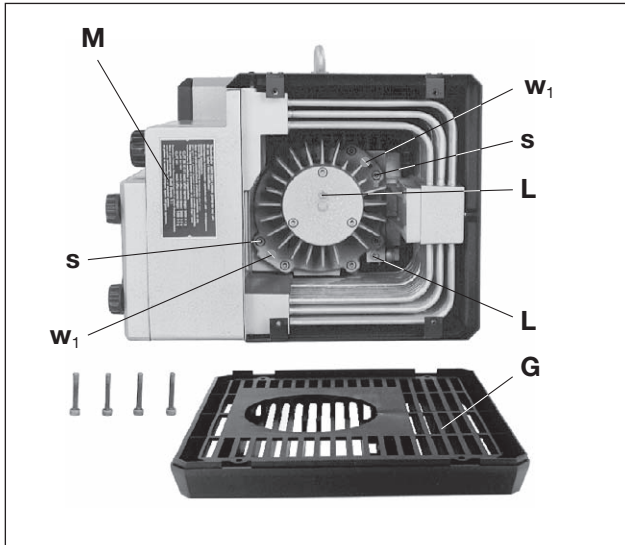
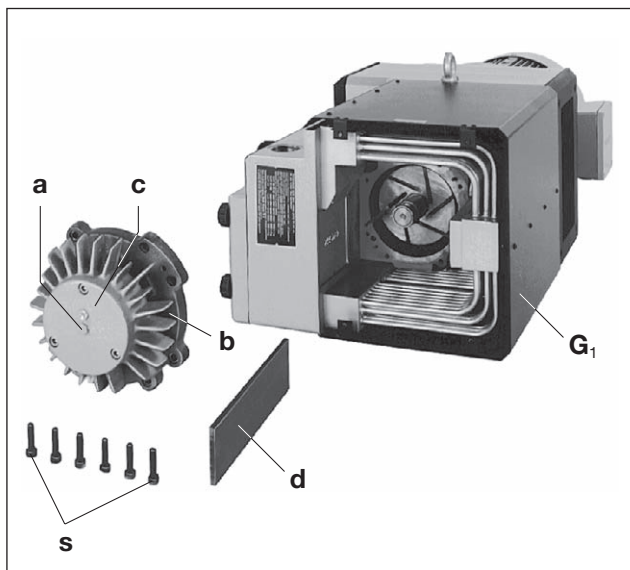
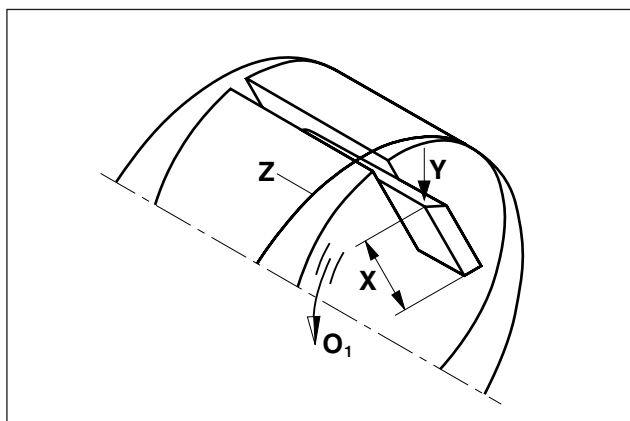

Fig. 4 Lubrication/ Blades
Fig. 5 Lubrication/ Blades
Fig. 6 Blades
The bearings must be greased at the 2 greasing points (Fig. 4/L) with 6 g per point, after the following recommended operating hours or at the latest one year operation:
To lubricate the inlet grating (Fig. 4/G) must be unscrewed.
We recommend the following brands of grease: KlüberPetamoGY193 or other equivalent greases (see also grease recommendation plate (Fig. 4/M)).
First check after 4,000 operating hours and then every 1,000 operating hours or, depending on the height (Fig. 5/X) earlier.
Remove inlet grating (Fig. 4/G). To remove the end cover (Fig. 5/b) from the housing, the bolt (Fig. 5/a) located in the centre of the bearing cover (Fig. 5/c) should be removed. To achieve this one of the fixing bolts (Fig. 5/s) from the housing cover should be screwed into the thread in the centre of the bearing cover. Remove the blades (Fig. 5/d) to be checked. All blades on the machine must have a minimum height (Fig. 6/X) of more than 38 mm.
Do not undo the **slotted nuts** (Fig. 4/w₁) on the housing lid (Fig. 5/b). Only the screws (Fig. 4/s) need to be removed to change the blades.
Before refitting the blades clean out the housing and the rotor slots with compressed air. Place the blades, with the radius outwards (Fig. 6/Y), such that the bevel is in the direction of rotation (Fig. 6/O₁) and corresponds with the radius of the housing (Fig. 6/Z).
Before refitting the end cover (Fig. 5/b) redistribute the grease from the bearing cover (Fig. 5/c) on to the appropriate bearing. It is important that the shaft end is completely clean so that no grease can enter the housing, this could mix together with carbon dust and give a viscous paste which would result in the blades becoming stuck in the rotor slots.
When re-fitting the end cover tighten the bolts evenly so that the end cover fits correctly onto the fixing pins. As soon as the cover is almost touching the housing, we recommend during further tightening of the bolts, the fan is moved in both directions. This can be achieved by taking the grill at the cooling air exit (F) away. This then ensures that the blades are sitting correctly in their slots and avoids any edge damage. Refit the suction grid (Fig. 4/G).